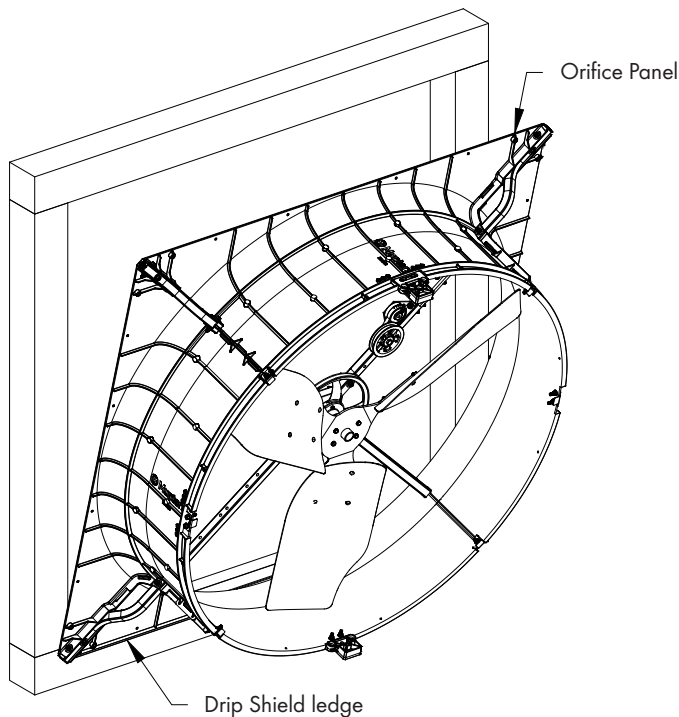

Figure 13A
The bottom of the fan is the side opposite the Motor Plate and Tensioner Arm. Set bottom edge of Orifice Panel on Drip Shield ledge and center panel on opening. Secure Panel to wall using (8) Lag Screws [ZZ] and Washers [A1] in each of the 2 raised holes in each of the corners. See Figure 13A and 13B.